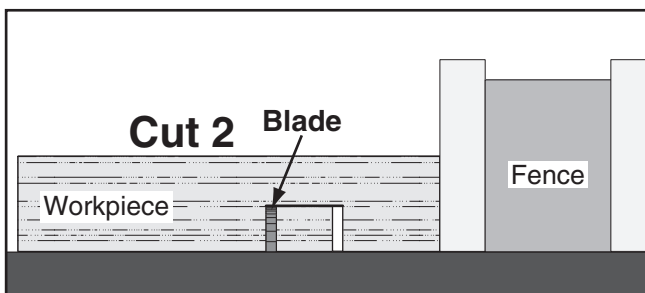

Figure 63. Second cut for a single-blade dado.
- Repeat cutting operation on other side of dado, as shown in **Figure 63**.